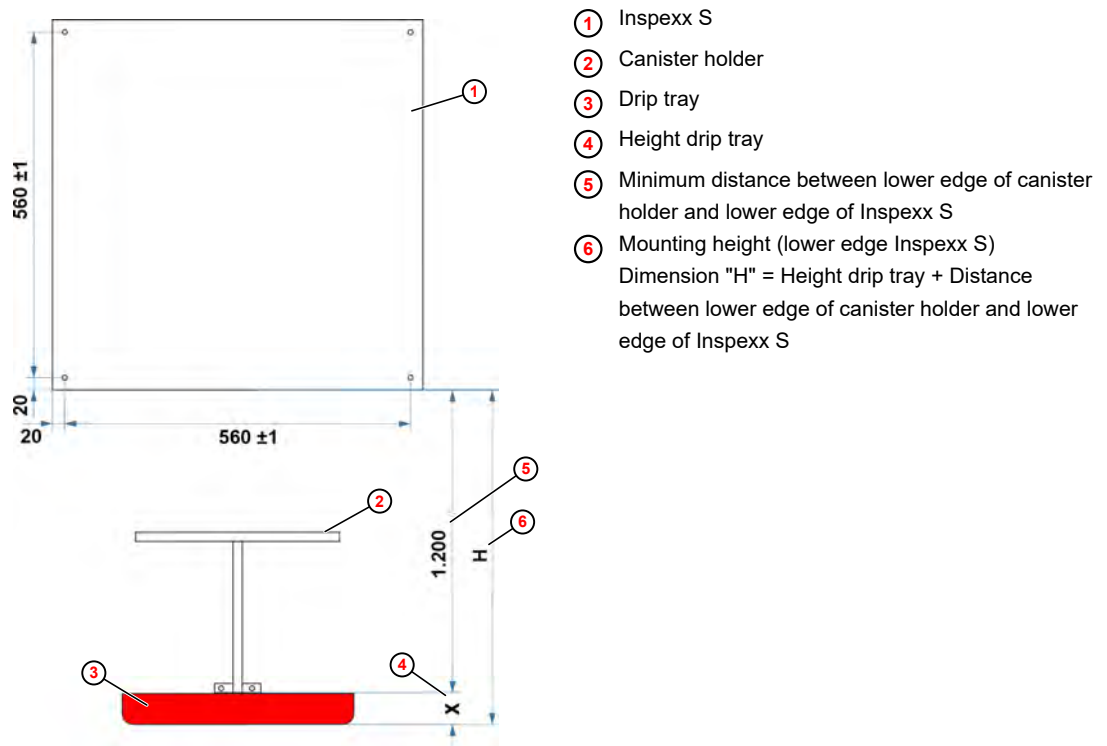

Fig. 4: Wandmontage
1. ▶ Prepare the mounting according to the information in Fig. 4 .